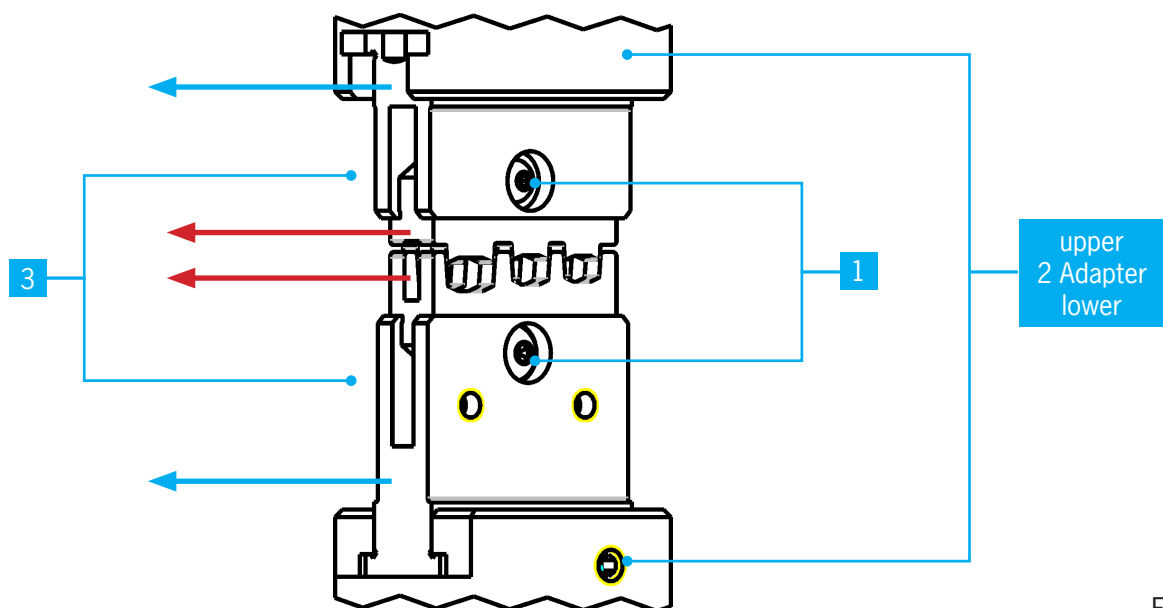

Fig. 3
- Loosen the set screws for the upper and lower crimping die with an Allen wrench SW 2,5 mm Fig. 3/1; open the crimping dies by using the square counter bearing slightly
- Pull the crimping die set out of the adapter Fig. 3/3 in the direction of the arrows (red arrows) Abb. 3/2
- Pull the adapter intake out to the front (blue arrows). Fig. 3